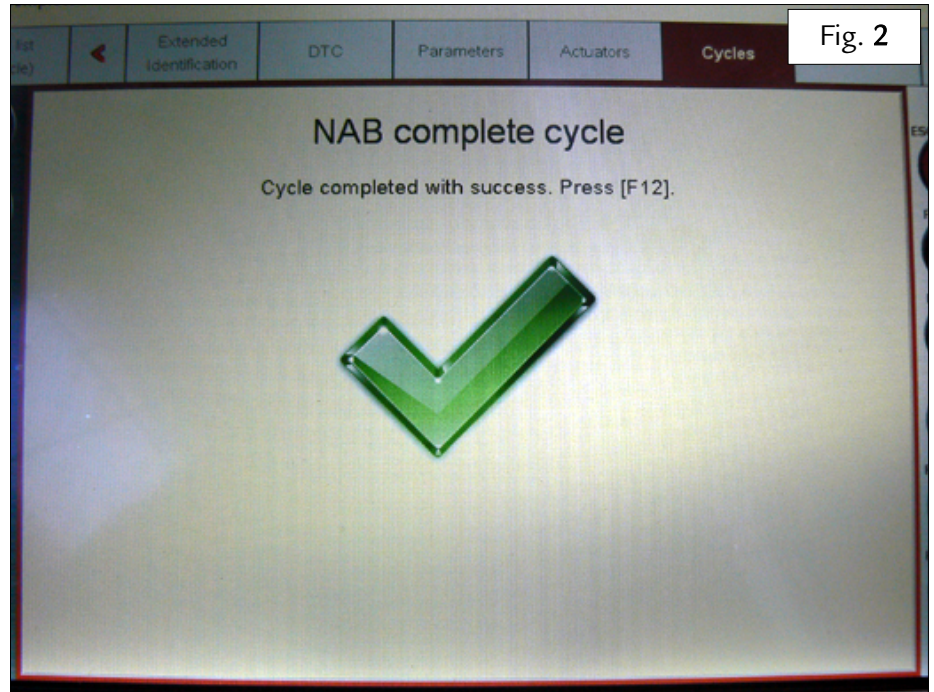

Fig. 2
1.8. Ensure that the cycle is completed successfully (see Fig. 2 below).